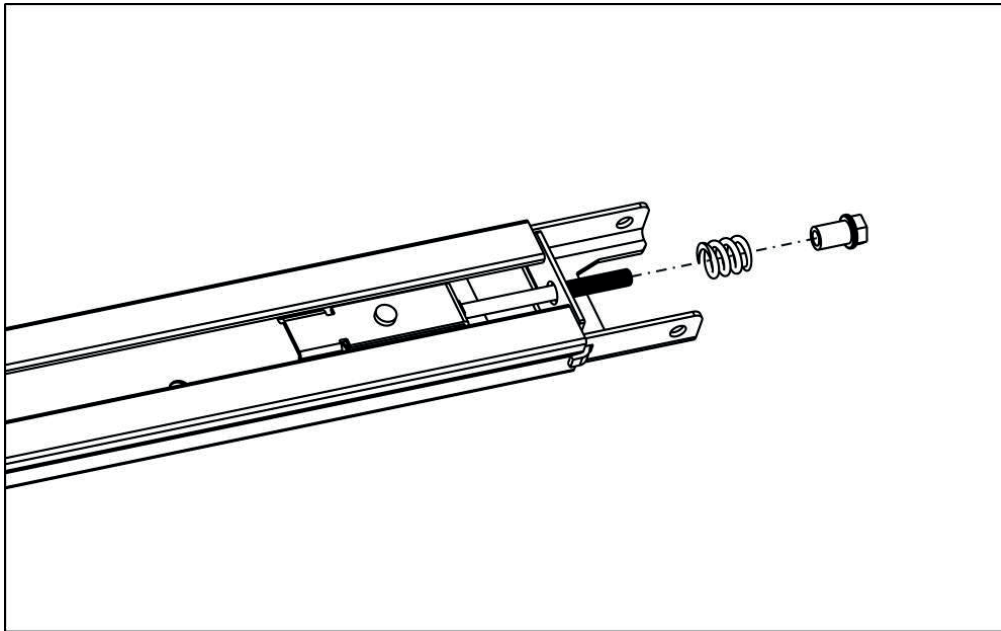

Fig. 10
5. As Fig.10, undo the nut & spring;